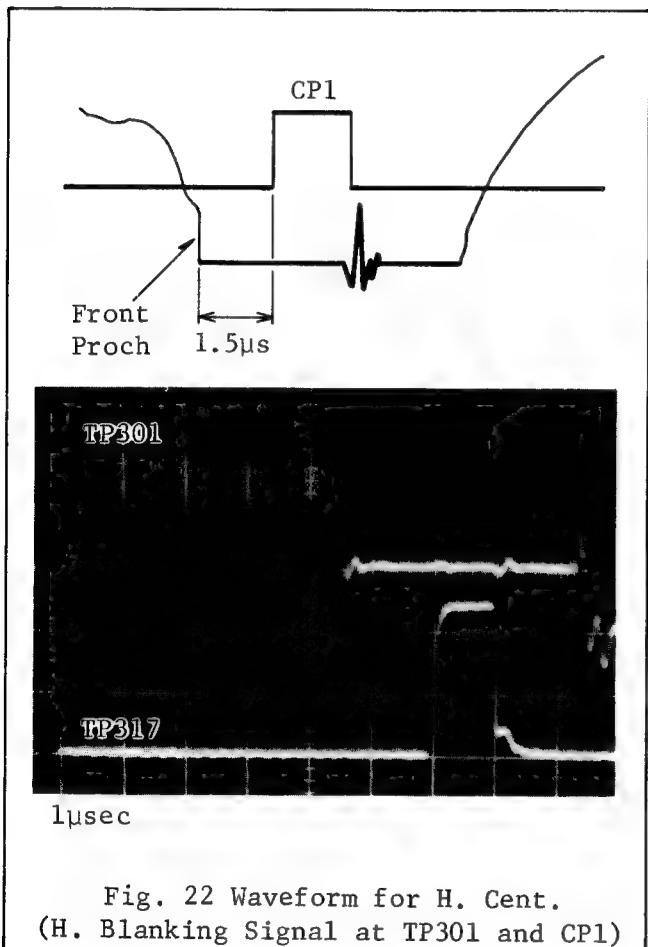

Fig. 22 Waveform for H. Cent.
5. Adjust the horizontal centering control, VR621, so that the time between the trailing edge of the video signal, in other words, the front porch of the optical black, and the leading edge of the clamp pulse 1 signal (TP317) is 1.5 μ sec. as shown in Fig. 22.